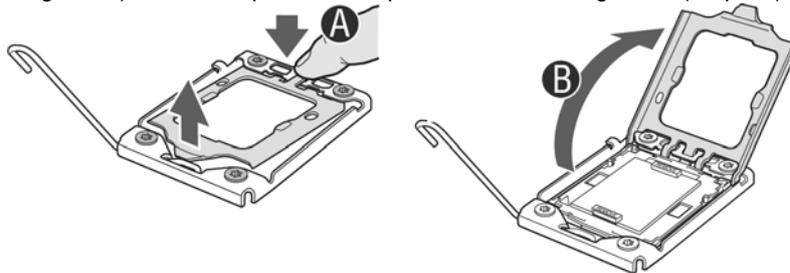

Figure 13. Opening the Processor Socket Load Plate
6. Open the load plate: push the rear tab with your finger tip to bring the front end of the load plate up slightly (Step “A” in Figure 13), and then open the load plate as shown in Figure 13 (Step “B”).